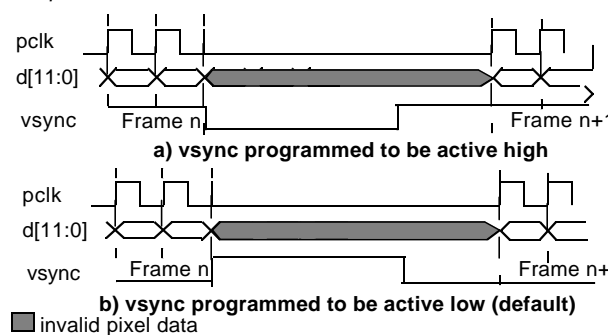

Figure 40. vsync in pulse mode
- Pulse mode should be used when the pixel clock, *pclk*, is programmed to operate in *data ready mode*. In pulse mode the *vsync* output pin will produce a pulse at the end of each frame. The width of the pulse will be a minimum of four *hclk* cycles and its polarity can be programmed as shown in Figure 40. The *vsync* level is always synchronized to the active edge of *pclk*.